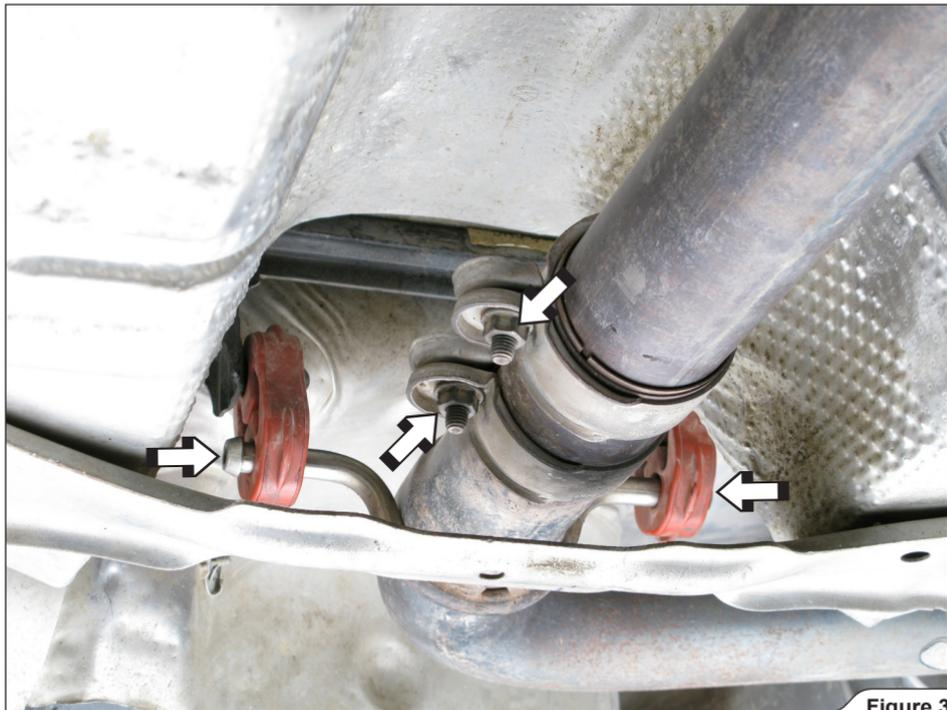

Figure 3
3. **For optional Link-Pipe only:** loosen the marked clamps and slide the stock link-pipe brackets out of the rubber brackets (**Figure 3, 4**).